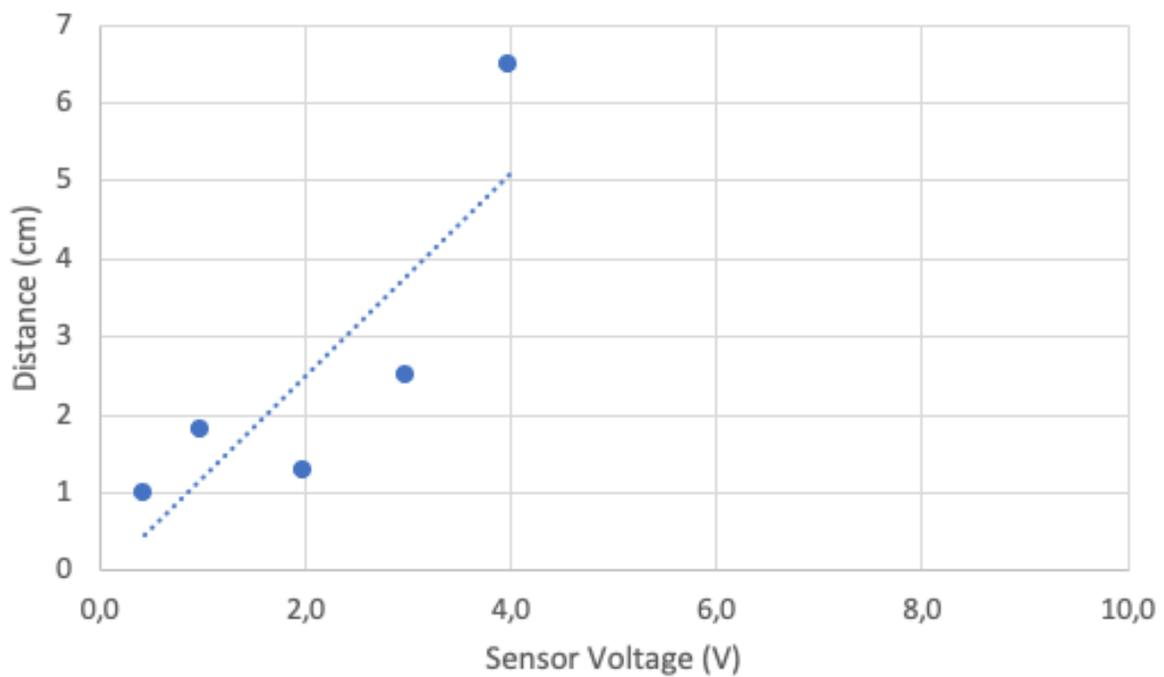

Figure 6: periNODE 0-10V Plot of collected data
1. First step is collect some samples, which have been collected from the sensor, like shown in Table 2. In Figure 6 is possible to observe that for these samples a straight line will not represent the points well.